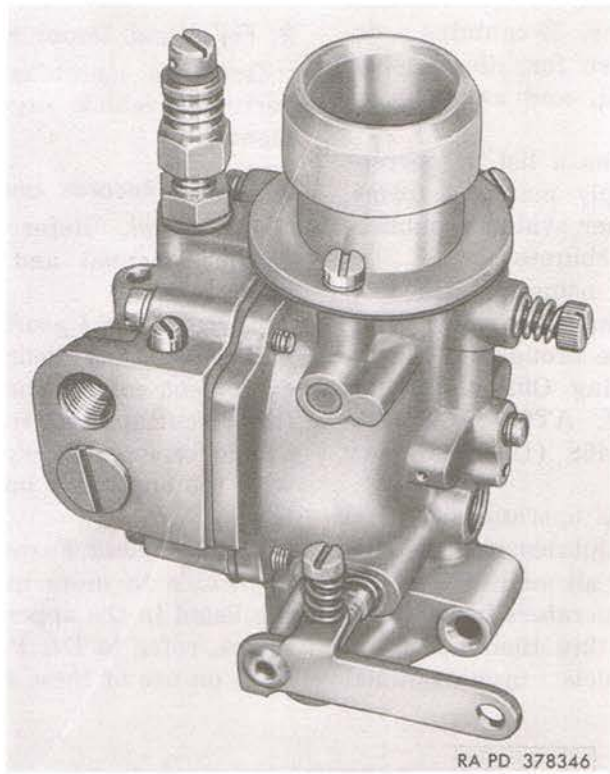

Figure 1. Tillotson carburetor—model MD-107A.
a. The Tillotson Model MD-107A carburetor (fig. 1) is an adjustable needle, horizontal draft, single-barrel type, constructed of cast aluminum. The fuel inlet and float are located in a separate fuel bowl attached to the carburetor body. Fuel level in the bowl is controlled by the float, which pivots on the float lever pinion screw and forces the inlet needle valve against its seat when a predetermined level has been reached. Fuel flow is controlled by an adjustable needle as the fuel passes into the main discharge nozzle. The manual choke per-